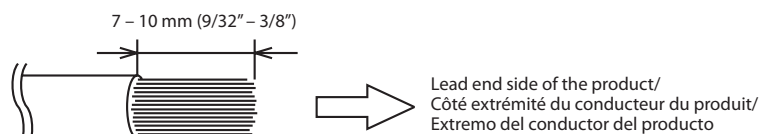

Fig. 5
2. Remove the insulation from the ends of the wire leads by about 7 – 10mm (9/32" – 3/8"). (Fig. 5)
2. Retirer l'isolation des bouts des fils de connexion de 7 – 10mm (9/32" – 3/8"). (Fig. 5)
2. Quite aproximadamente 7 – 10mm (9/32" – 3/8") de aislación de los extremos de los alambres. (Fig. 5)